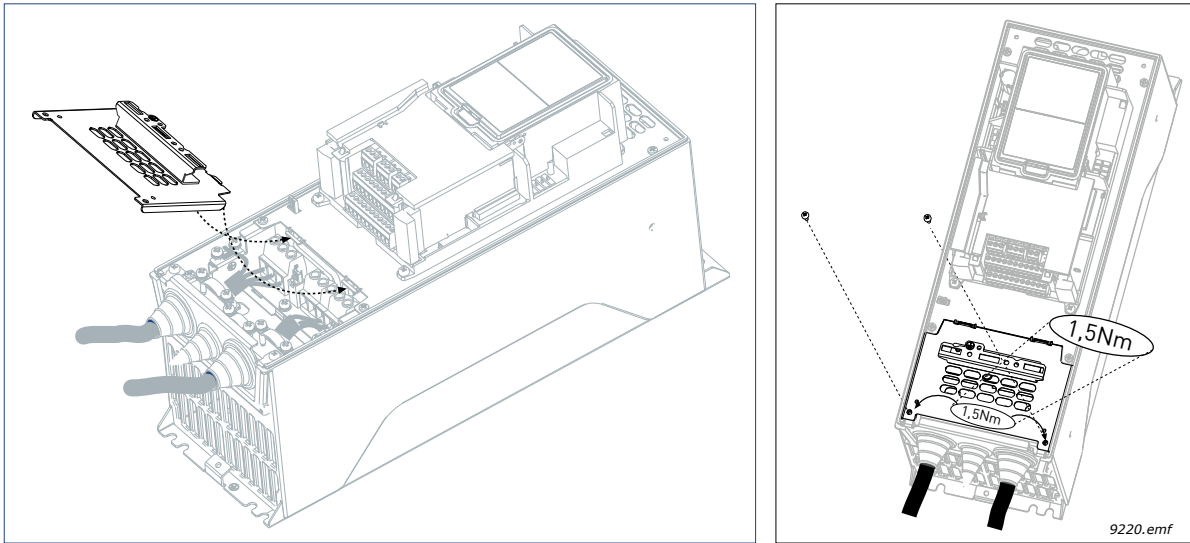

Figure 23. Re-mounting of cover components
**9** Re-mount the cable protection plate (Figure 23) and the cover of the drive.